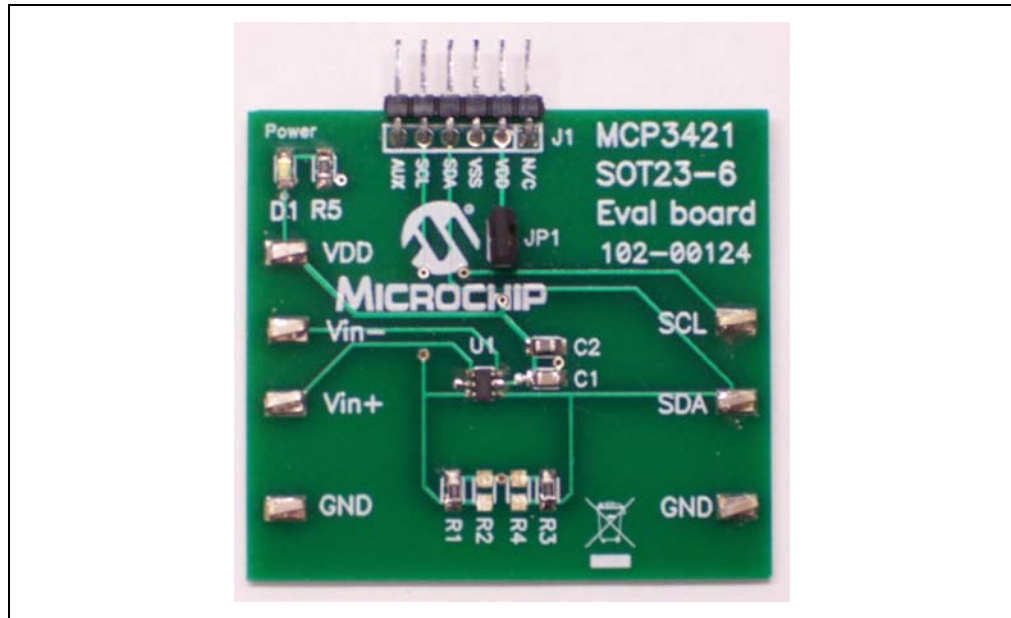
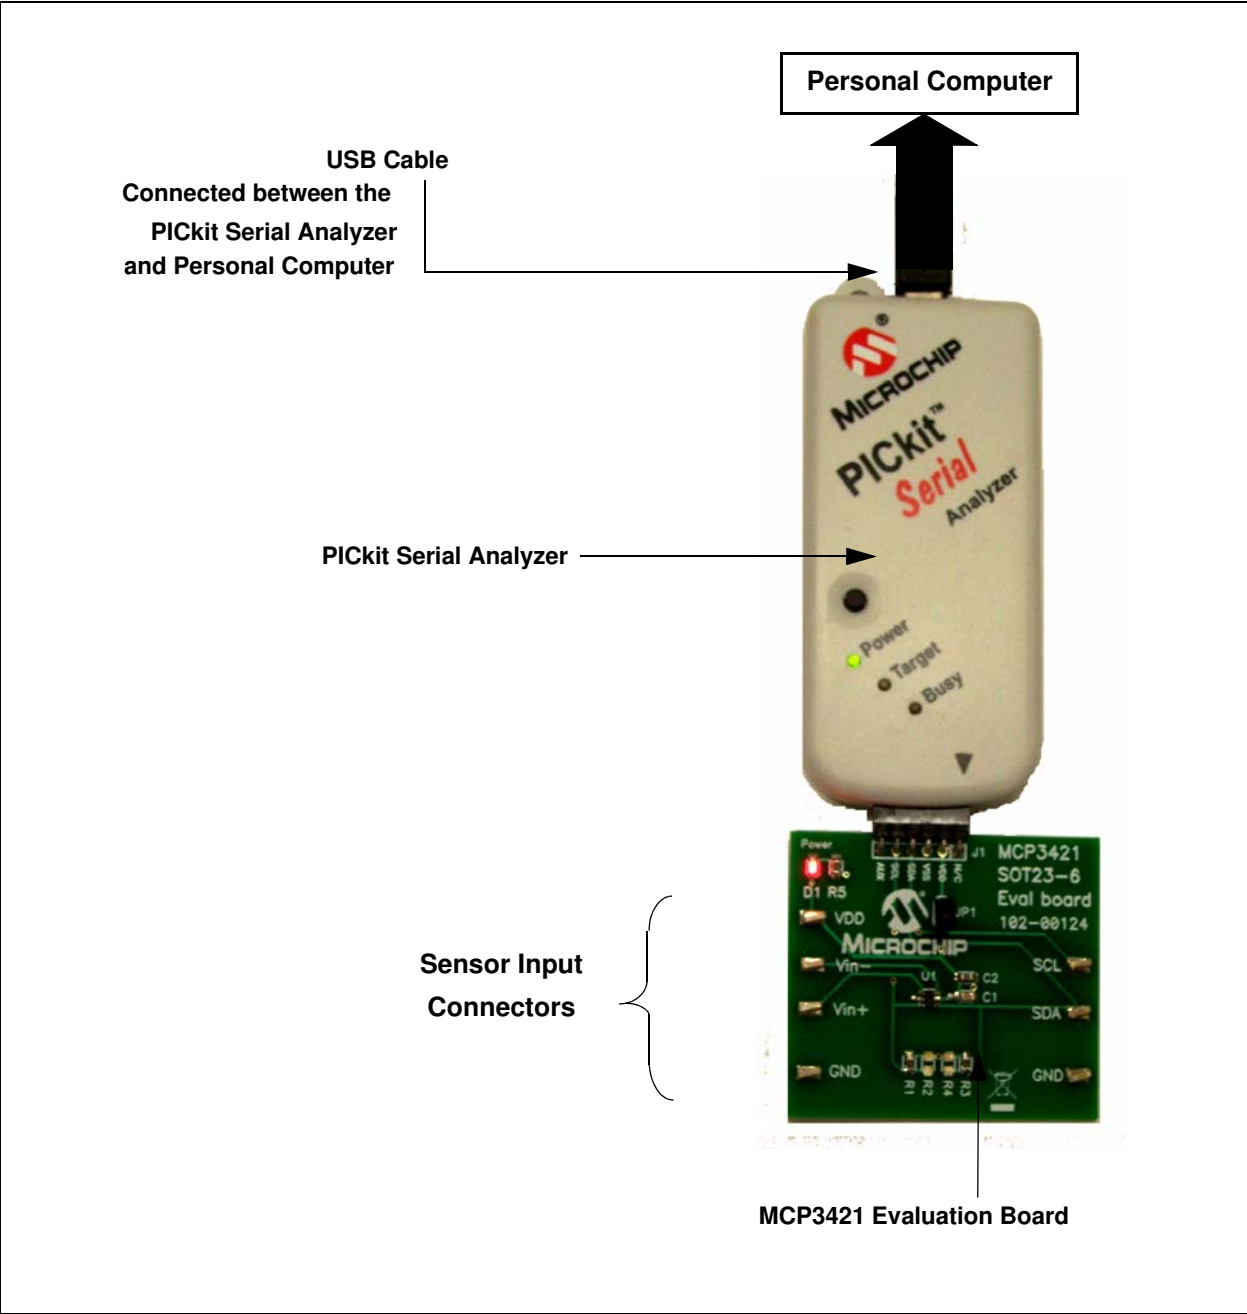

FIGURE 1-1: Front and Back Views of the MCP3421 SOT23-6 Evaluation Board.
FIGURE 1-2: MCP3421 SOT23-6 Evaluation Board with the PICkit Serial Analyzer.
Figure 1-1 shows the MCP3421 SOT23-6 Evaluation Board and Figure 1-2 shows the Evaluation Board and PICKit Serial Analyzer connection.
1. Connect the MCP3421 SOT23-6 Evaluation Board's J1 pin socket to the PICKit Serial Analyzer as shown in Figure 1-2.